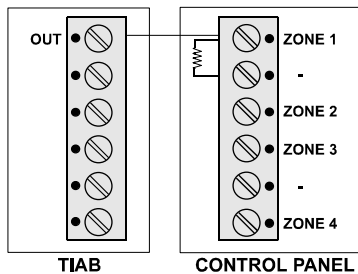

Figure 7 - "Open collector" Output Connection to an Alarm System
- Connect the **Panic** output (terminal 7), the **AuxOut** output (terminal 6), the **Door Ajar** output (terminal 4) and the **Forced Entry** output (terminal 5) to the appropriate zone of the alarm system, or to any other indicating device (relay, LED, buzzer, etc.). All these outputs are of the open collector type (see figure 7).